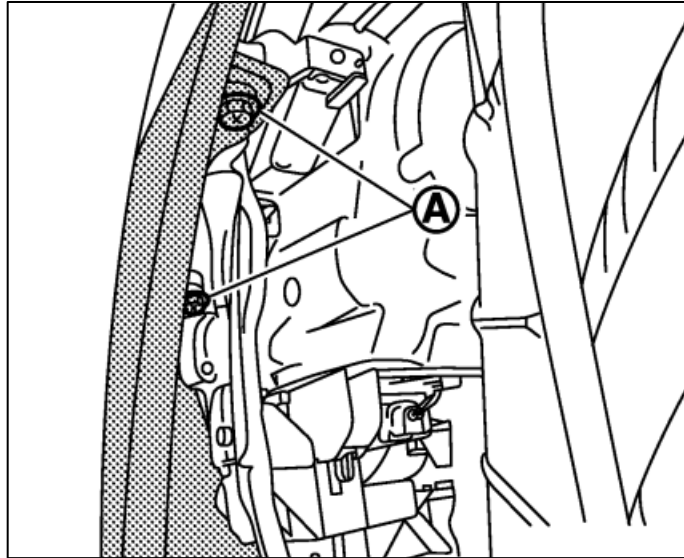

Figure 6
- Remove the front Fender Liner bolts/clips and pull it back to access the (2) two screws securing the Front Bumper Fascia to the Front Fender. Remove these screws. *Figure 6.*